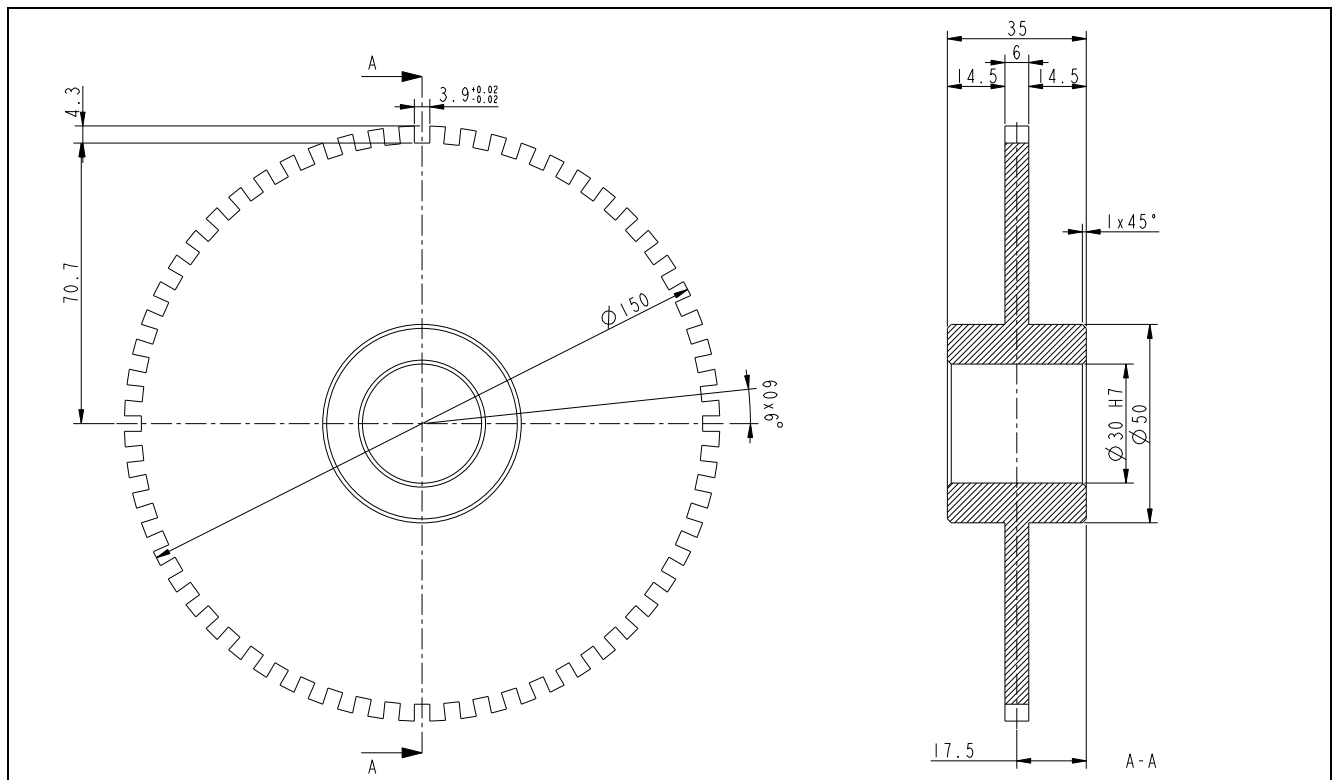

Figure 2-2 Infineon reference toothed wheel: dimension in mm
2) Measured from surface of package to toothed wheel, explained in Figure 2-2.